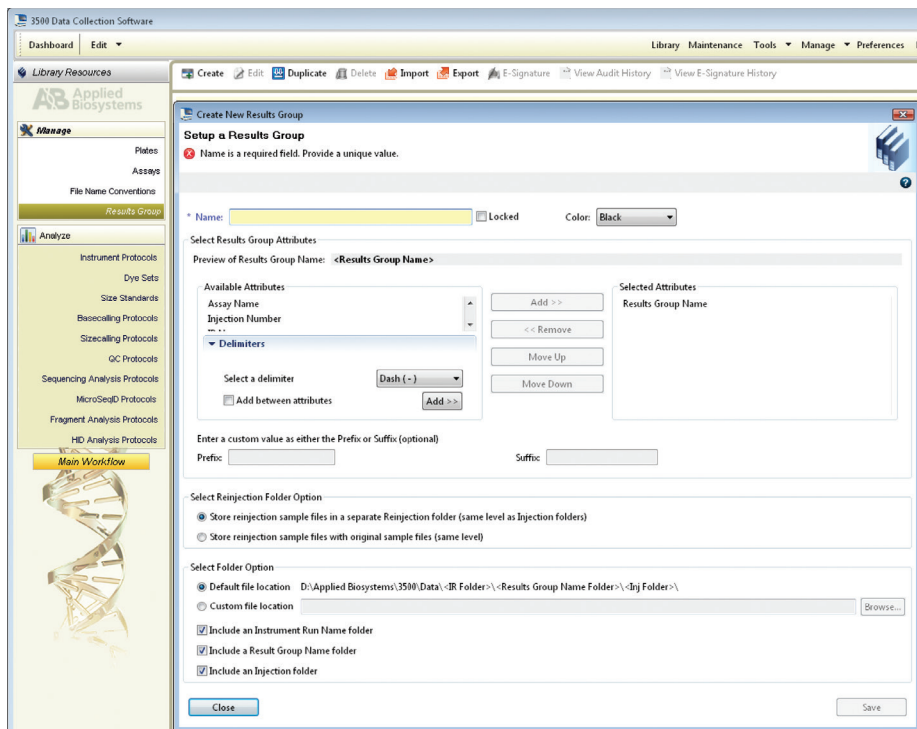

Figure 7. The 'Create New Results Group' window.
7. To create a new Results Group (Figure 7), navigate to the Library. Select **Results Group**, then select **Create**. Alternatively, a previously created Results Groups may be used.